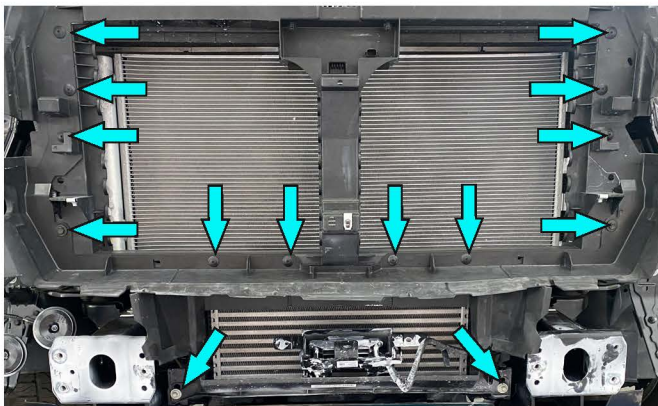

Fig.13
13. Unscrew OE bolts (fig.13).